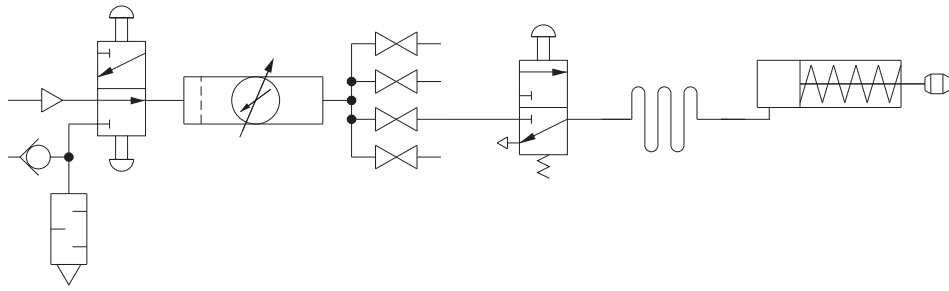

Figure 4-5. Schematic Diagram of a Circuit Using a Long Tubing Line.
- ☐ 10. Modify your circuit as shown in Figure 4-5.